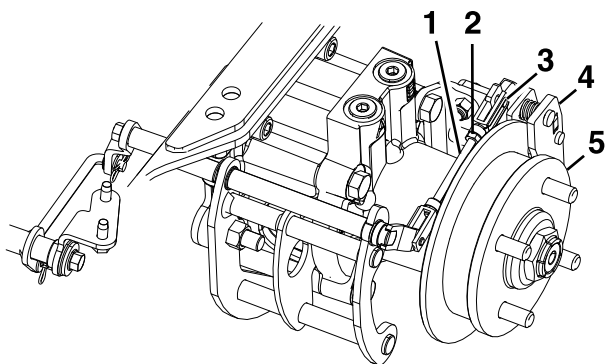

Figure 77
8. Remove the spring clevis pin from the rear linkage and caliper (Figure 77).
12. Tighten the jam nut on the rear linkage (Figure 77).